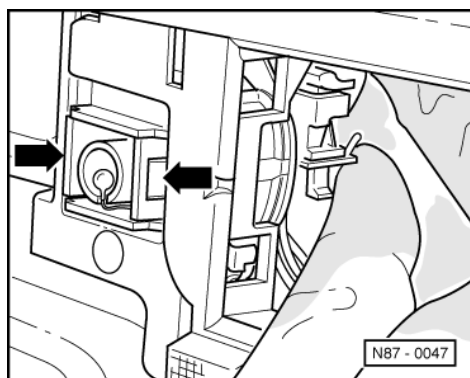

Fig.1 -> Removing dash panel temperature sensor -G56- and temperature sensor blower -V42-
- ◆ Adjusting cable at main shut-off flap => Fig. 1
- ♦ Removing =>Page 80-1; Servicing heating, Fig. 1
- ♦ Removing => Fig. 1